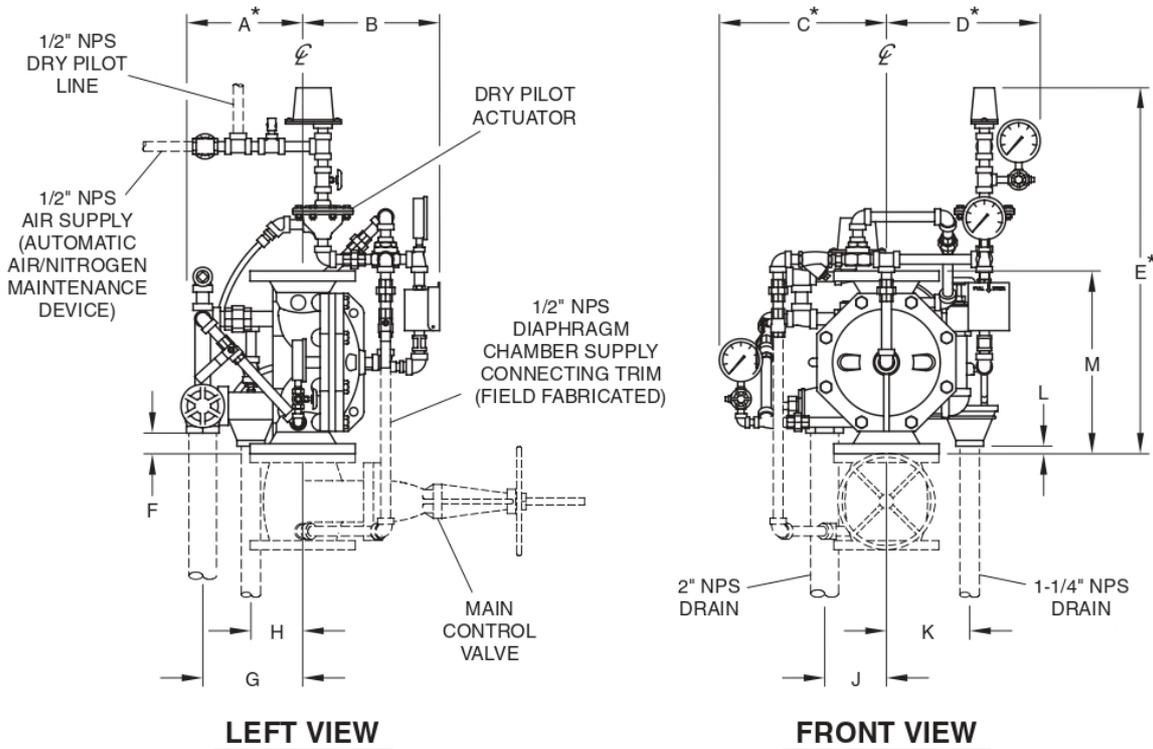

FIGURE 3
consisting of pilot sprinklers (heat detectors) and manual control stations interconnected with minimum 1/2 inch (DN15) steel pipe. The dry pilot line, which is to be pressurized with air or nitrogen, is connected to the “Dry Pilot Detection” connection shown in Figure 2B. Nominal installation dimensions for Vertical Dry Pilot Actuation Trim are shown in Figure 3.
Step 7. Connect the Diaphragm Chamber Supply Control Valve to the inlet side of the system's main control valve in order to facilitate setting of the DV-5 Valve (Ref. Figure 3).